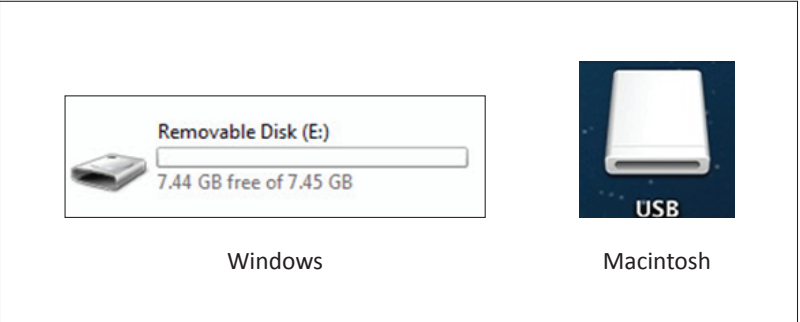

Figure E7. Icons for USB stick.
- 1) Insert an 8 GB USB memory stick into an empty USB slot in your personal computer. **WARNING: All data on the USB stick will be erased during this process!** You should see a new **Removable Disk** under **My Computer** (Windows) or a new **Drive** on your **Desktop** (Macintosh), as shown in figure E7.